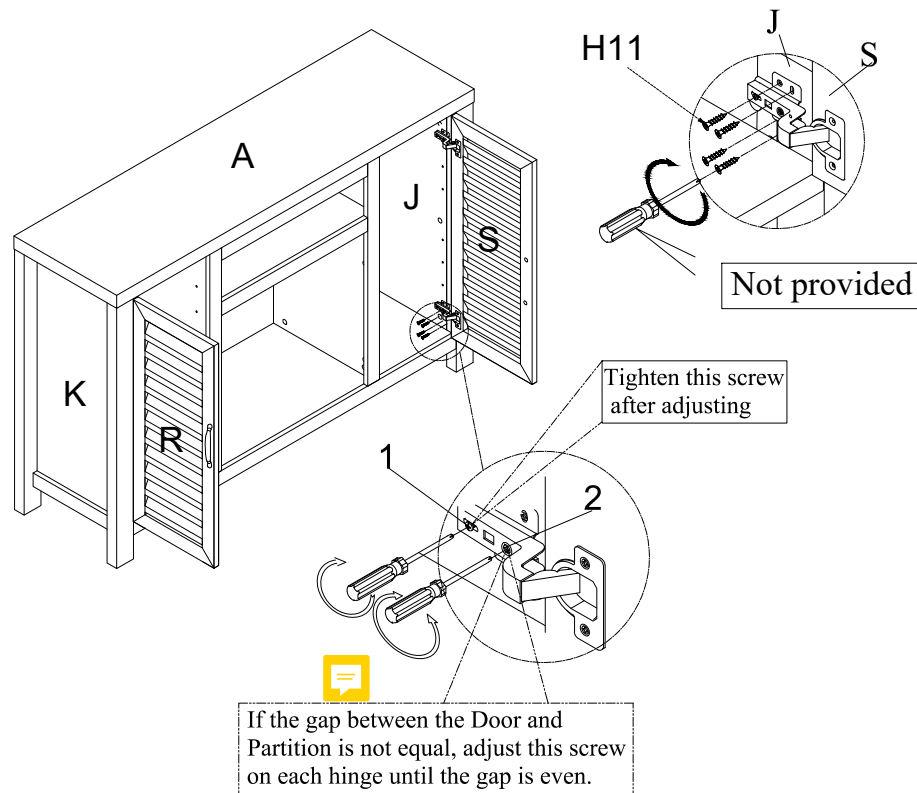

Figure 16
With assistance from another adult, align the holes of Door hinge (H10) on Right door (S) with the punctures in Right side panel (J) and secure in place with Flat head screw (H11) using screwdriver (Not provided) as shown in figure 16. Fully tighten all screws. Repeat this process to attach Left door (R) to Left side panel (K).